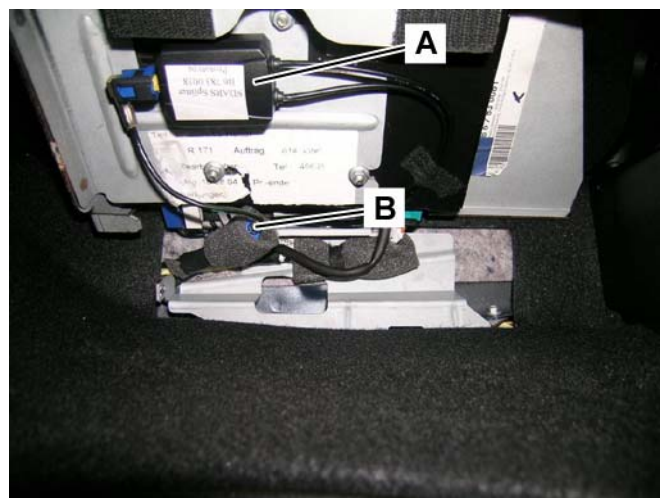

Figure 18
7. Connect the preinstalled blue antenna lead connector to the adapter cable (B, Figure 18) of the SDARS splitter (A, Figure 18).